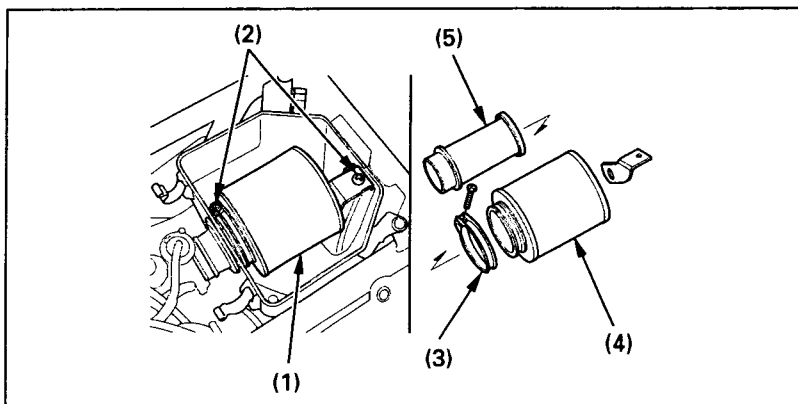

Fig. 4-5 (1) Air cleaner assembly (2) Screws (3) Clamp (4) Air cleaner (5) Air cleaner body
3. Remove the screws (2) (Fig. 4-5) and remove the air cleaner assembly (1) from the air cleaner housing.
4. Unscrew the clamp (3).
5. Remove the air cleaner (4) from the air cleaner body (5).